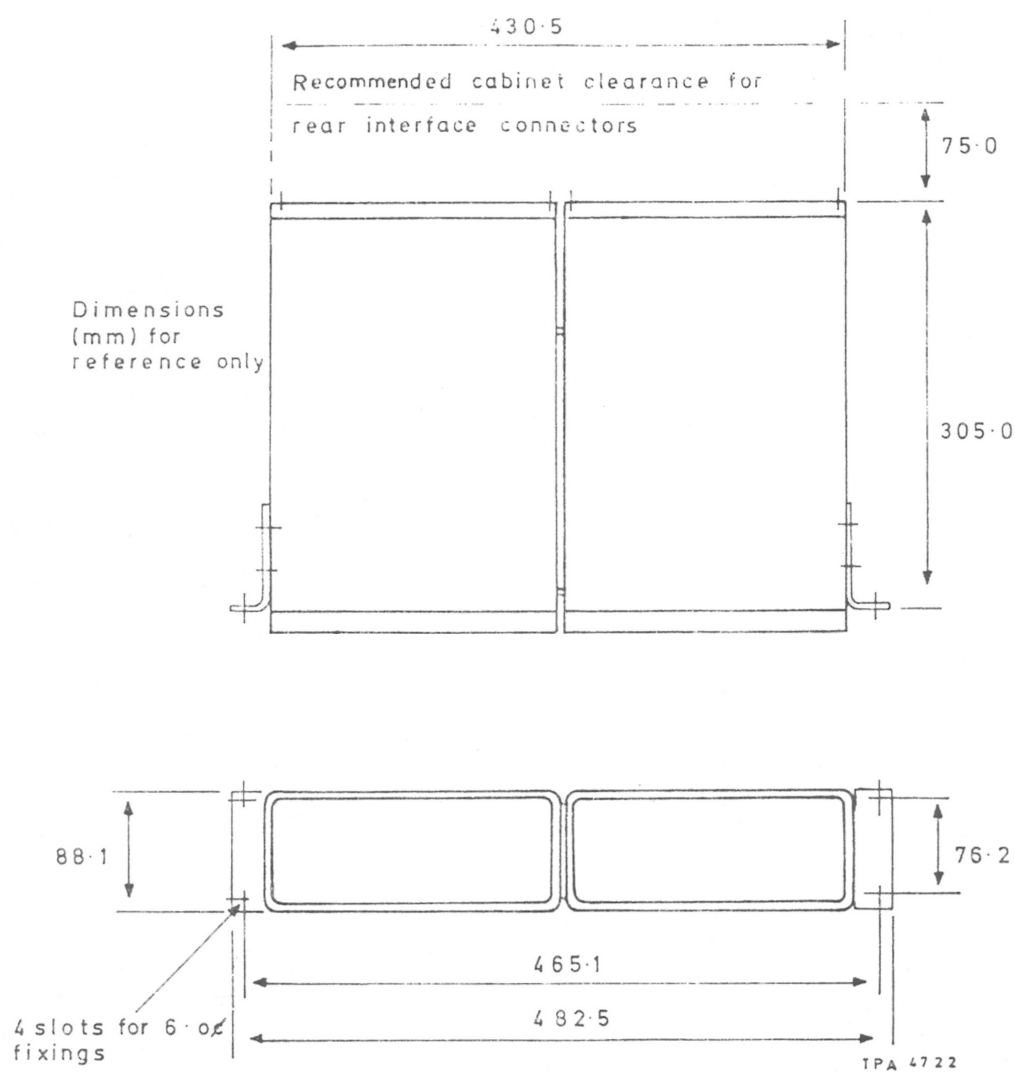

Fig. 2 Dimensions (in mm) of twinned rack mounting units
- (1) For rack mounting the 6960 RF power meter on its own, a single unit rack mounting kit 46883-638P is available. This contains a pair of side angle plates wide enough to allow the instrument to sit centrally within the rack frame.
- (2) For rack mounting the RF power meter side by side with another similar instrument, a double unit rack mounting kit 46883-536P is available. This kit contains fixings for joining the two instruments together and for attaching the twinned unit to the rack (see Figs. 2 and 3).
- (3) When the RF power meter is to be rack mounted on its own but provision retained for possible side by side mounting with another similar instrument, a blank frame unit 46883-537X is available. This is in addition to the double unit rack mounting kit and takes the place of the other instrument.
- (4) Before assembling the double unit kit prepare the instrument(s) for rack mounting as follows:-
- (5) Then assemble the kit as follows:-